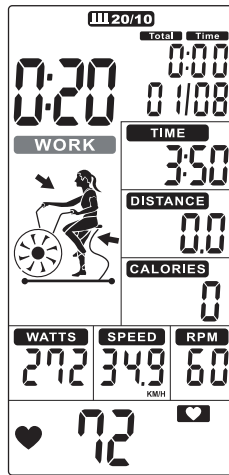

FIGURE 25
- The cycle time counts down from 20 to 0 and the word WORK flashes once per second. Meanwhile, the Display shows a 4 minute rotation and countdown animation. Then, TIME (DISPLAY 3), DISTANCE (DISPLAY 4), CALORIES (DISPLAY 5), WATTS (DISPLAY 6), SPEED (DISPLAY 2) AND RPM (DISPLAY 1) start counting, the display will show '01/08' (Figure 25).